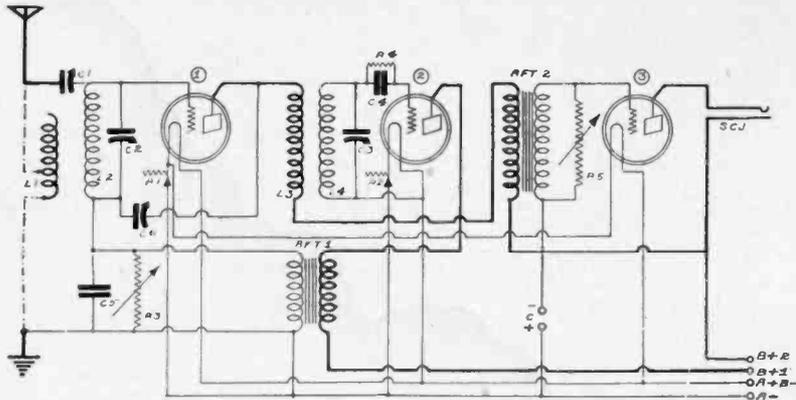
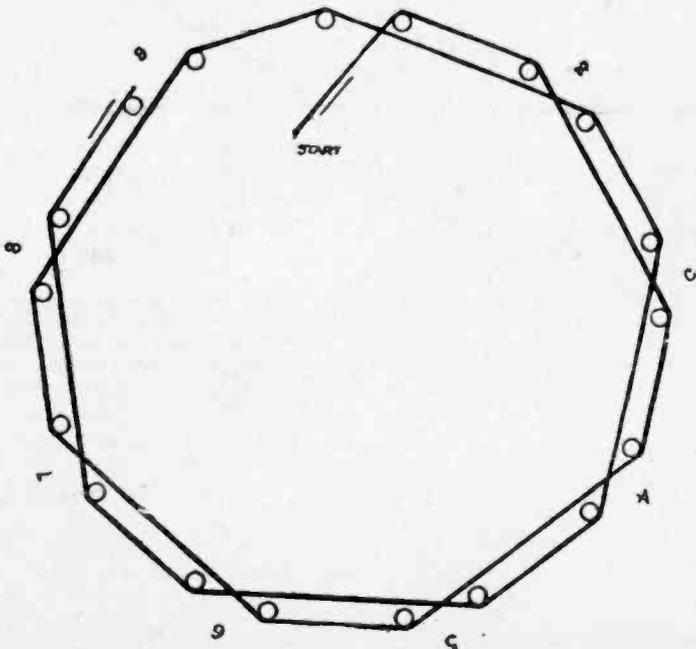

FIG. 525
FIG. 526
(1)—The circuit diagram of such a receiver is shown in Fig. 525. The antenna circuit is so wired that either the midgem .00005 mfd. variable condenser can be used to couple the antenna to the grid-filament circuit of the first tube, or that the primary winding L1, which is wound with the secondary L2 can be used to couple this circuit to the antenna circuit. The .0005 mfd. variable condensers C2 and C3 are used to tune the secondary circuits of both coils. The primary L1 consists of fifteen turns, tapped at the fifth and tenth turn. The secondary L2 consists of forty-four turns. The secondary L4 consists of the same number of turns. The primary L3 consists of ten turns. The primaries are first wound on the form. The secondary immediately follows. Leave about two inches of wire out at the beginning and the end of each winding. Place a piece of gummed cloth over each of the leads, and mark as to beginning or end. The exact manner of winding is shown diagrammatically in Fig. 526. It will be noted that the wire is brought over two dowel sticks, then under to, and so on. Make these loops as tightly as possible. After you have concluded one complete form, take the dowel sticks out, slowly and carefully. Then bring some cotton through the spaces, left by the absence of the dowels, and tie for the purpose of holding. Now procure a dowel stick, which is about three feet long. Cut up into 4 equal sections. Use two for each coil, one directly opposite the other. You will find that by pushing the dowels so that at one end the top of the dowel is even with the top of the coil, a small portion will protrude at the other end. These ends are placed in small holes drilled in the baseboard. Either transformer can be used in the reflex stage or in the straight audio stage. The variable high resistances are shunted across the secondary windings of the audio transformers. The other .000005 mfd. variable